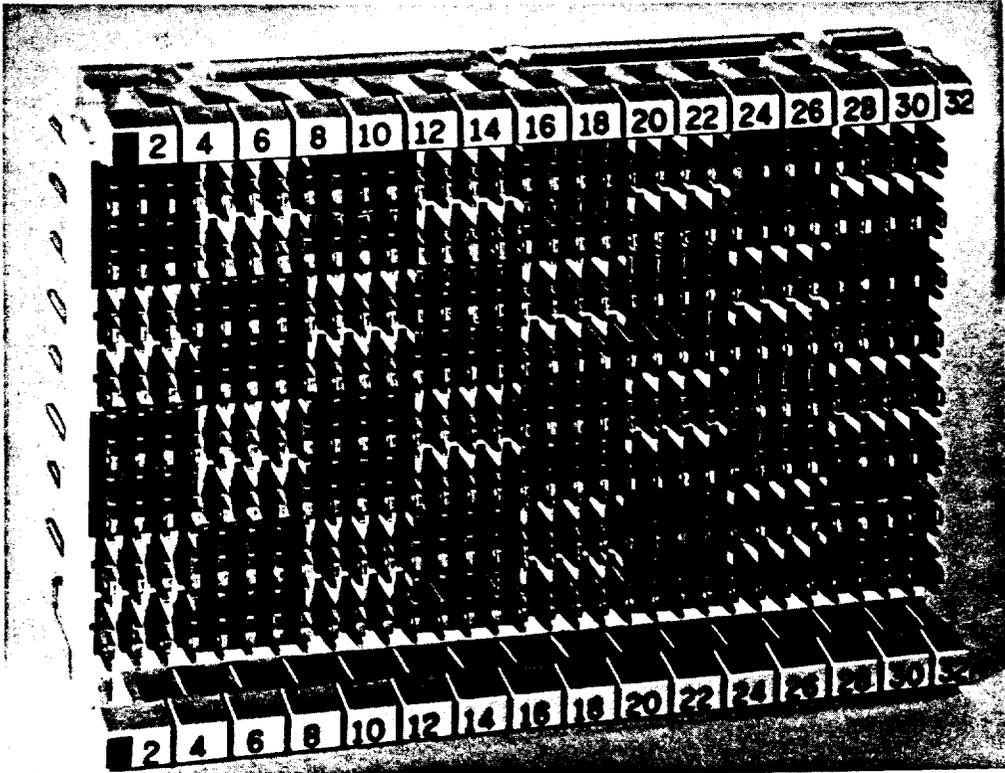

Figure 19. 112-Type Connecting Block — 128-Pair Terminal Arrangement
- 8.03** The 112-type connecting block (Figure 19) has a blue and white checkerboard pattern on the front of the block and is equipped with bifurcated 3-beam, quick-connect, insulation displacement terminals or wire-wrap terminals. Most connecting blocks are equipped with bifurcated or single wire-wrap terminals for cross connection. All 112-type connecting blocks contain wire-wrap terminals on the rear of the block for cable terminations.